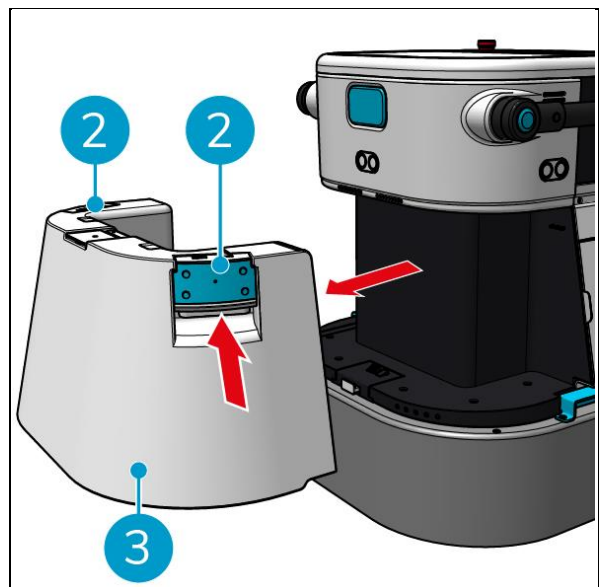

Figure 14
2. Use the blue handles (Figure 14, pos. 2) on both sides of the clean water tank (Figure 14, pos. 3) to further unlock and slide out the clean water tank.